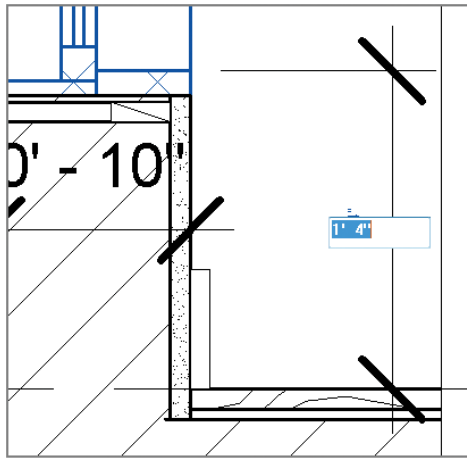

FIGURE 11.26 Entering a value into a dimension string
10. You can now enter a more reasonable value. Select the blue text, and type 1 4 (400 mm) in the text box (Figure 11.26). Press Enter. The window pushes up just a bit and resets the dimension string.